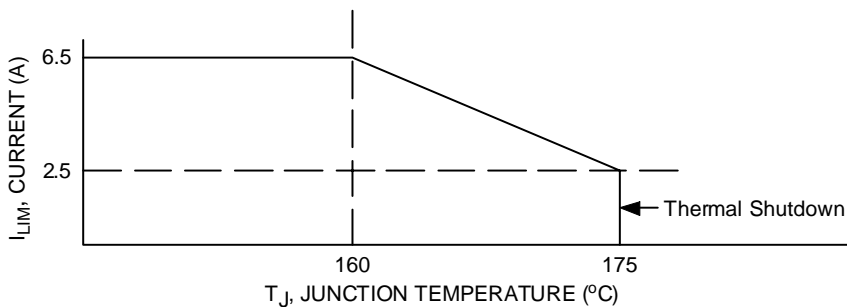
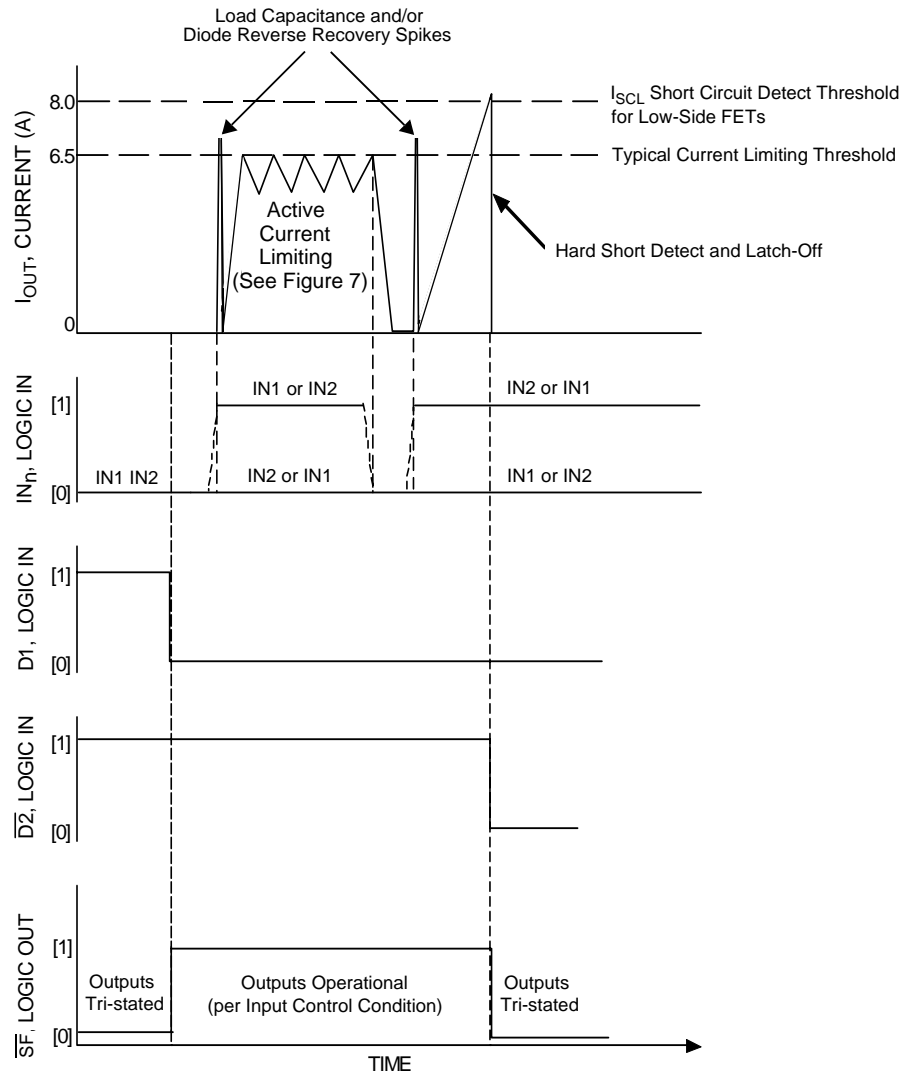

Figure 7. Active Current Limiting Versus Temperature (Typical)
Figure 8. Active Current Limiting Versus Time
27. Increasing currents will become limited at I_{LIM}. Hard shorts will breach the I_{SCH} or I_{SCL} limit, forcing the output into an immediate tri-state latch-OFF. See Figures 8 and 9, page 9. Active current limiting will cause junction temperatures to rise. A junction temperature above 160°C will cause the active current limiting to progressively “fold-back” (or decrease) to 2.5 A typical at 175°C where thermal latch-OFF will occur. See Figure 7, page 8.
The current limiting threshold value is dependent upon the device junction temperature. When $-40^\circ\text{C} < T_J < 160^\circ\text{C}$, I_{LIM} is between 5.2 A and 7.8 A. When T_J exceeds 160°C , the I_{LIM} current decreases linearly down to 2.5 A typical at 175°C . Above 175°C the device overtemperature circuit detects T_{LIM} and overtemperature shutdown occurs (see Figure 7, page 8). This feature allows the device to remain operational for a longer time but at a regressing output performance level at junction temperatures above 160°C .